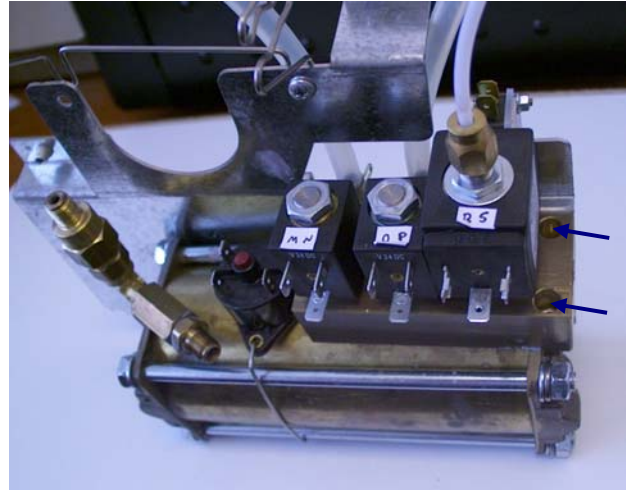

Fig. 12
10. Separate the boiler and valve block by undoing the 2 Allen bolts (Fig. 12)